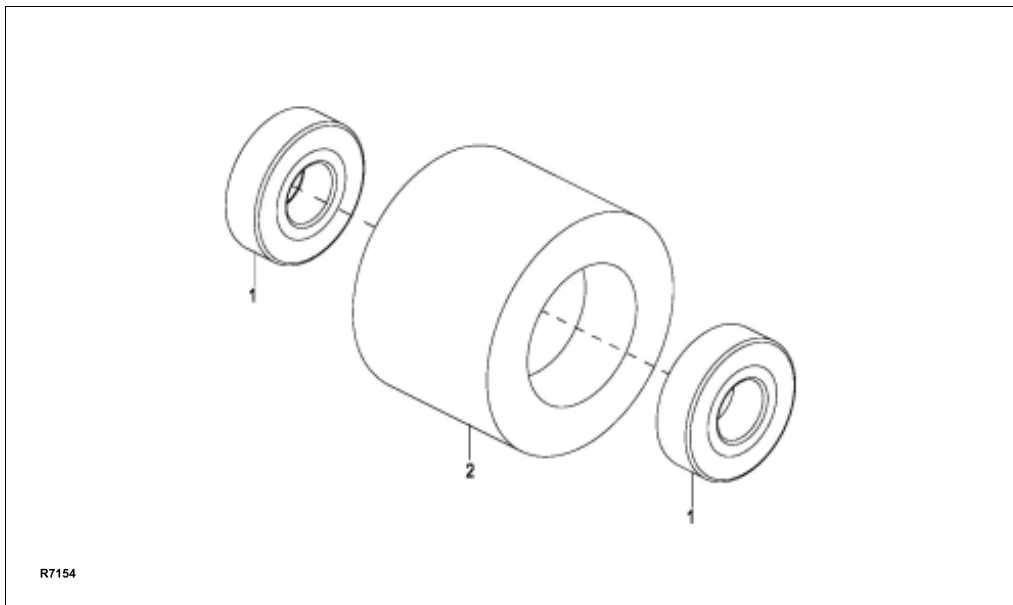

Figure 7-2 Wheel Assembly (Single Wheel)
1. Remove bearings (1, Figure 7-2) from wheels (2).
2. Inspect bearings (1) and replace if necessary.
3. Reassemble bearings (1) in wheels (2).